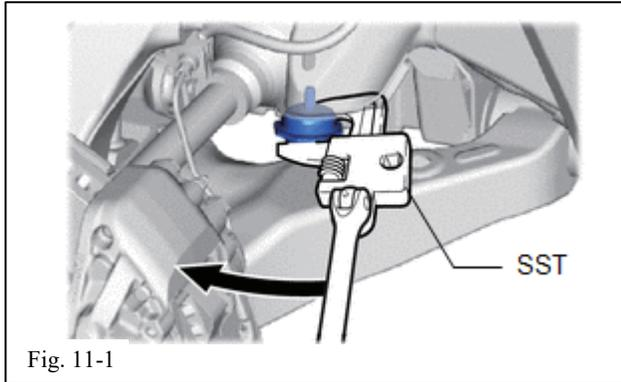

Fig. 11-1
- (a) Using SST, remove the front No. 1 spring bumper from the vehicle (Fig. 11-1) and discard.